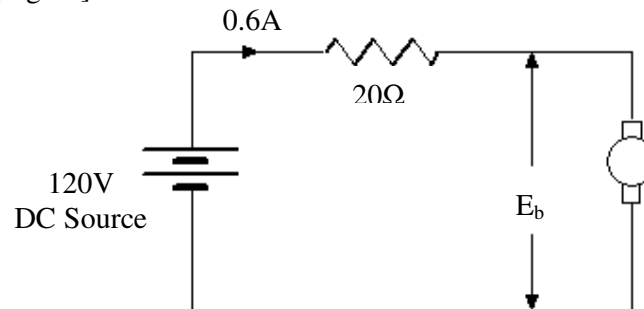

Fig F1
- Q.5** A 120V, 60Hz, 1/4hp universal motor runs at 2000 rpm and takes 0.6A when connected to a 120V d.c. source. Determine the speed, torque and power factor of the motor when it is connected to a 120V, 60 Hz, supply and is loaded to take 0.6A (rms) of current. The resistance and inductance measured at the terminals of the motor are 20 ohm and 0.25H respectively. (7)
**Ans: Universal Motor:** (A) When connected to a d.c. source it runs at 2000RPM and takes 0.6A [Fig F1]